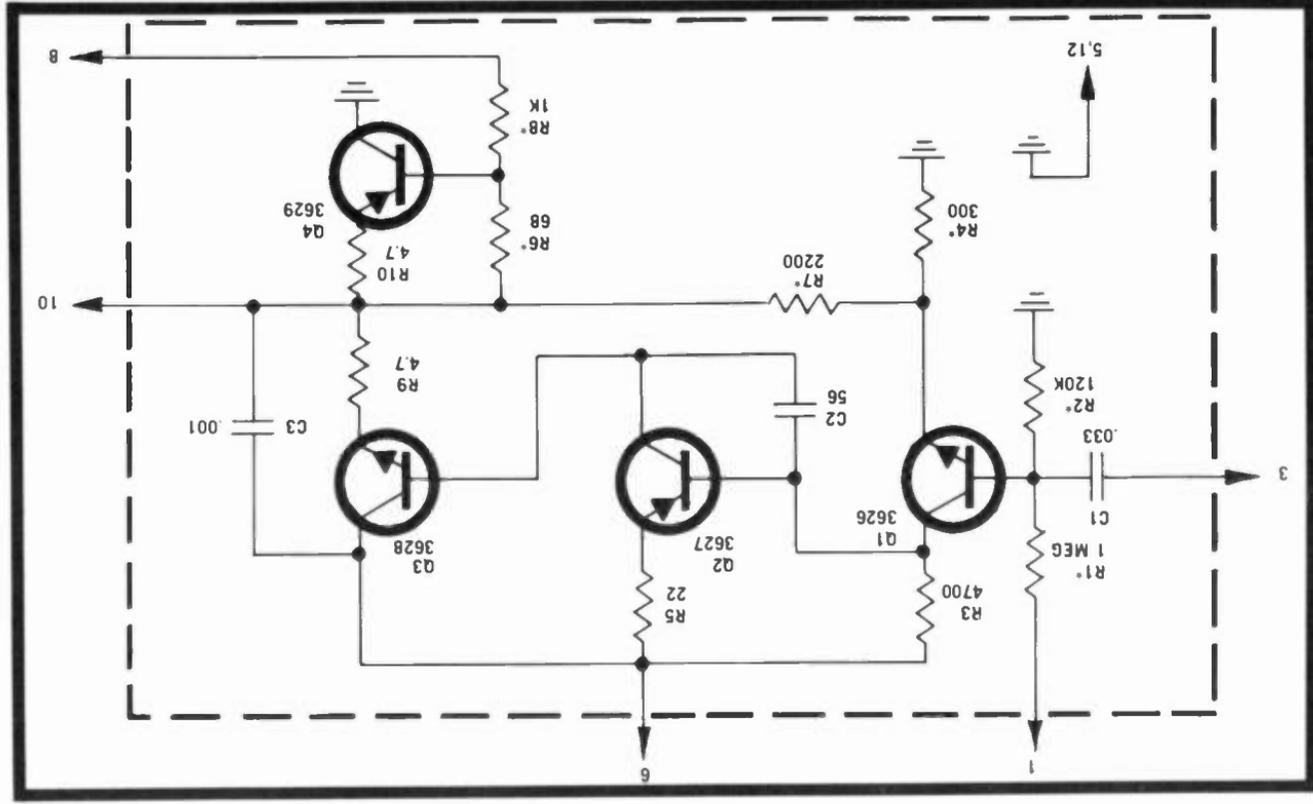

Fig. 6-22. Schematic of the MAN 2 Module phenolic version.
The MAN 2A module (Fig. 6-22) receives its input from terminal 12 of PM200 through a 0.033-mfd capacitor between base bias resistors R1 and R2. The signal is amplified through Q2 with a little degenerative feedback to the base of Q2. Transistors Q3 and Q4 constitute a Class B push-pull amplifier, with Q3 taking incoming voltages from Q2; Q4 requires negative polarity inputs on its base or positive inputs on its emitter. Feedback applied is through terminal 8, following the 50-mfd capacitor at output terminal 10.
17. Can you guess how Q4 in Fig. 6-22 works?